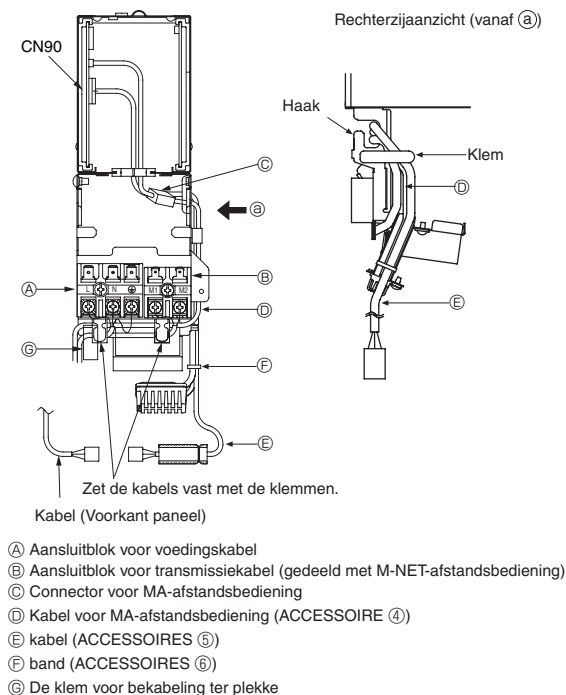

Fig. 5-1
5.1. Binnenapparaat (Fig. 5-1, 5-2)